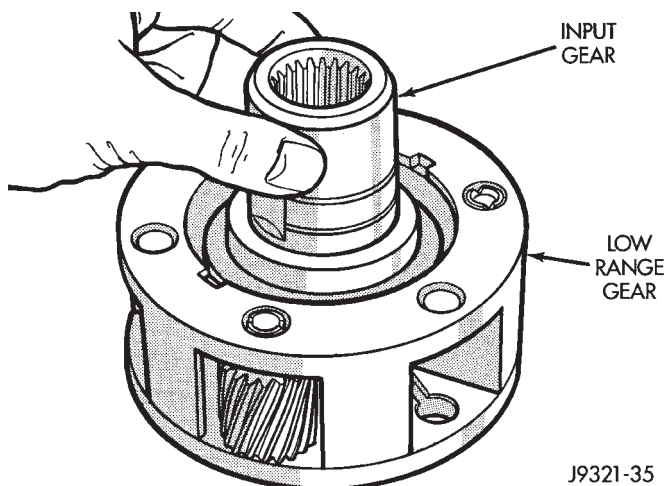

Fig. 35 Removing Input Gear
(3) Remove input gear (Fig. 35).